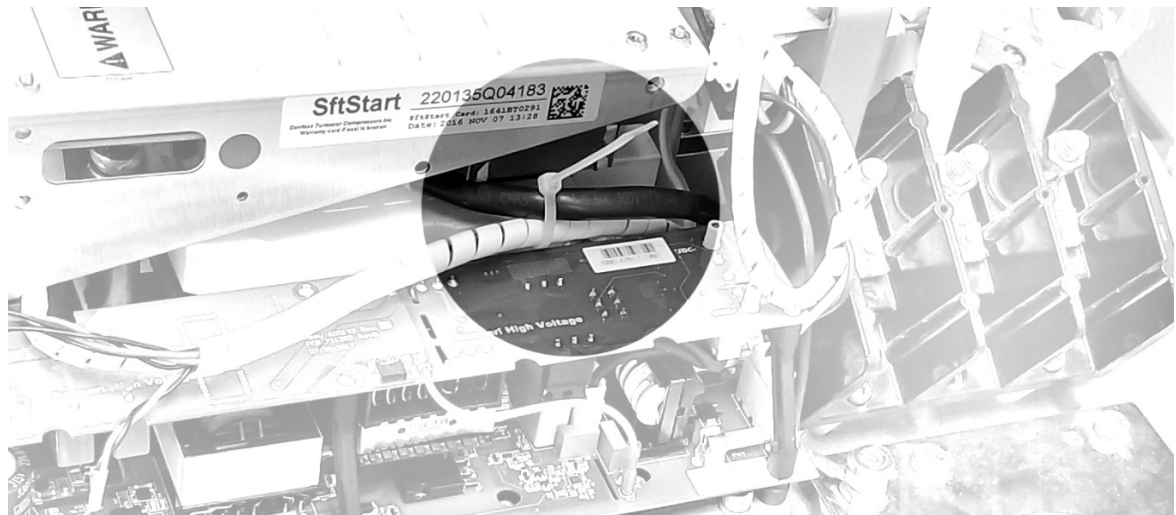

Figure 15 – DC-DC Converter Harness Cable Tie
8. Once all connectors are installed, secure the DC-DC Converter Harness Cable to the IGBT to Backplane Harness with a cable tie as shown in Figure 15 (DC-DC Converter Harness Cable Tie).